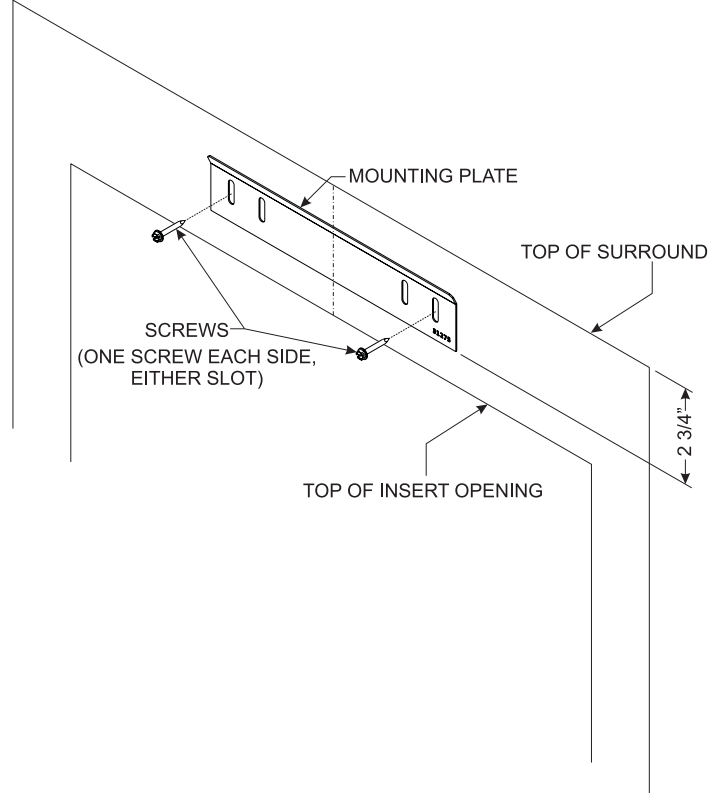

Figure 3
3. Measure 2-3/4" down from the mark made in step 2 and make a new mark. See Figure 3.